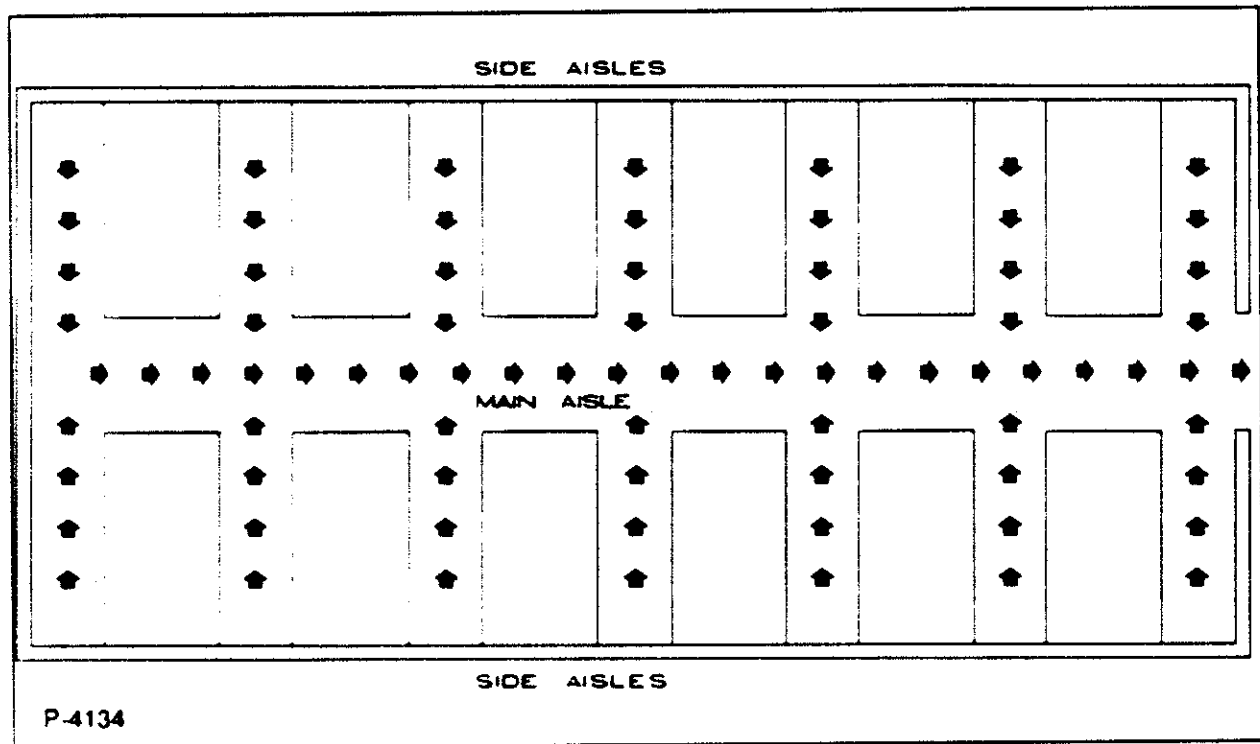

Figure 15
2. Use the machine to sweep debris from narrow aisles into main aisle. See Figure 15.
6. Sweep debris from main aisle. See Figure 15.